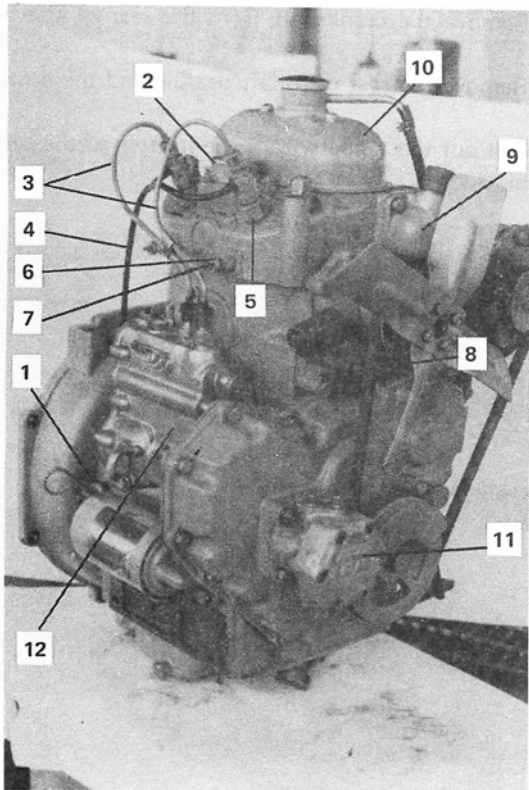

Figure 1
2. Remove the oil pressure sensor, Figure 1.